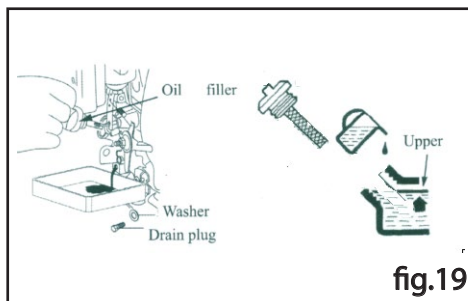

fig.19
- Unscrew the oil filler (bolt). (Fig.19)